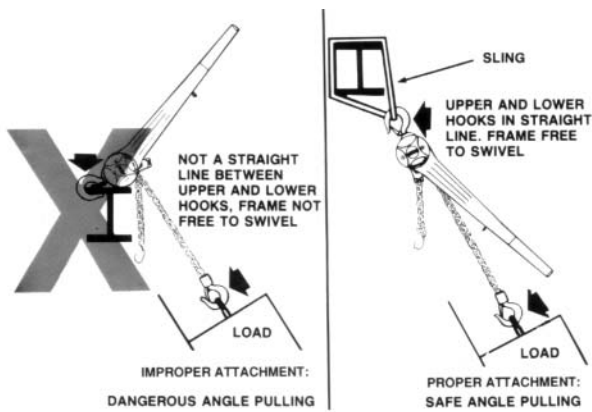

Figure 4. Angle Pulling
TO AVOID INJURY: RIG THE UNIT IN A STRAIGHT LINE HOOK TO HOOK MANNER AND KEEP FRAME FREE TO SWIVEL - SEE FIGURE 4.
Attaching Load - As discussed in installation section, attach load so that upper and lower hooks are in a straight line with the frame free to swivel on upper hook. If proposed use prevents straight line attachment, use an Anchor Sling (see page 2) or chain sling to obtain a straight line pull. Refer to Figure 4.
13. Do not operate the hoist unless it is rigged to pull in a straight line from hook to hook, **and** the frame is free to swivel on the upper hook. Refer to Figure 4.